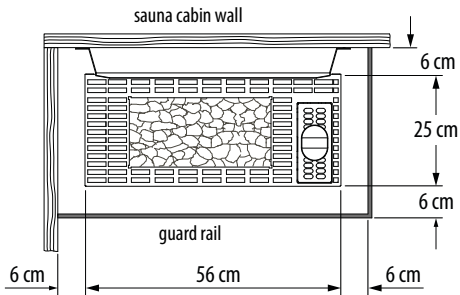

Fig. 2
- When you install the sauna heater you must ensure that the horizontal (at the side) distance between the heater and cabin wall is at least **6 cm** (Fig. 2).